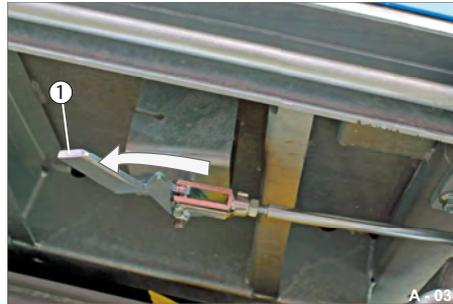

Fig. 46 Central locking system unlocked
- ▶ Turn the lever (Fig. 46/1) about 90°.